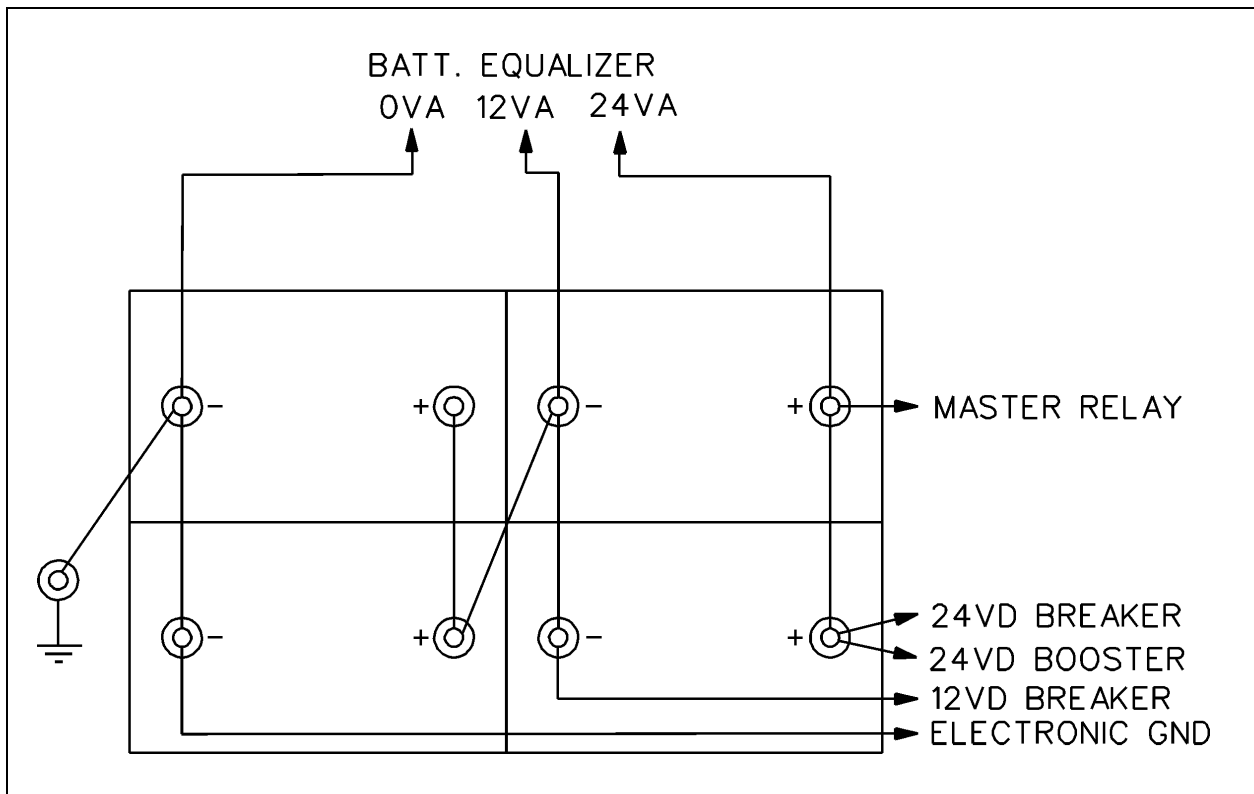
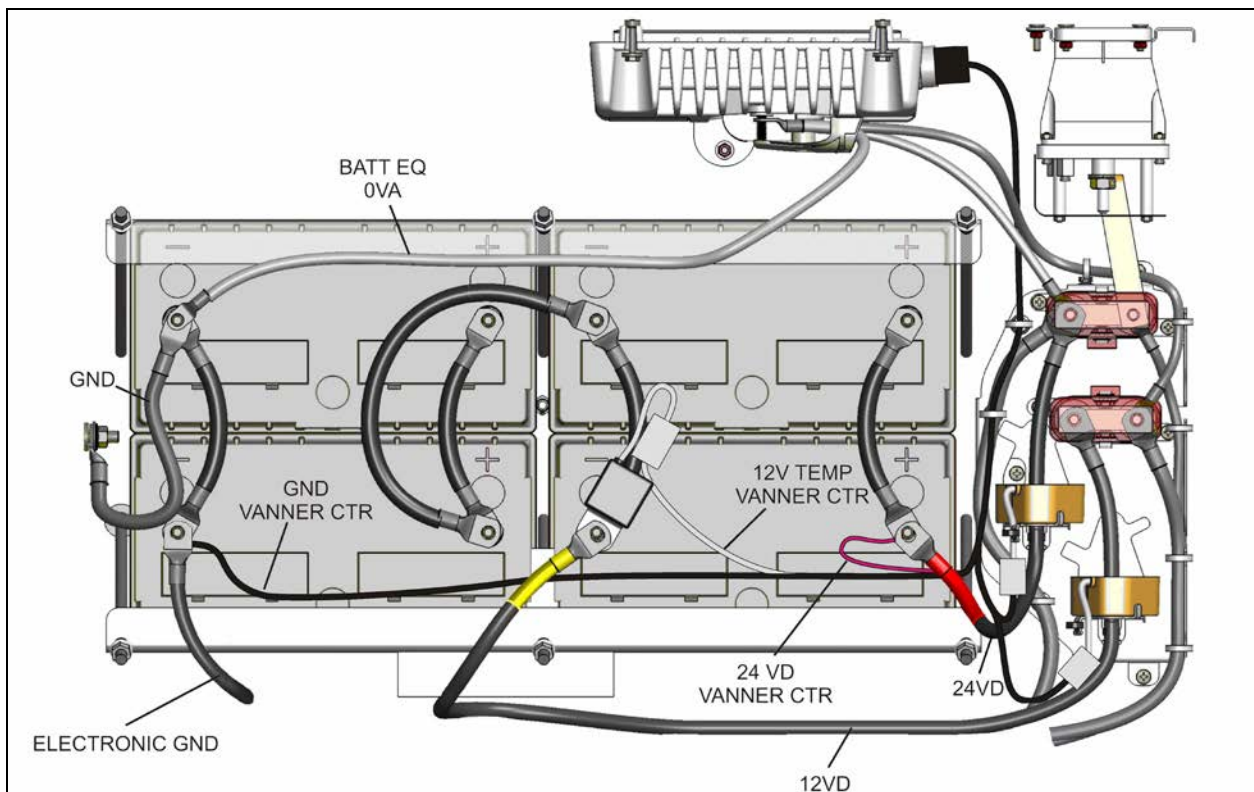

FIGURE 17: STANDARD BATTERY CONNECTIONS
FIGURE 18: AGM BATTERY CONNECTIONS
X3-45 coaches are provided with four (4) maintenance-free 12 volt heavy-duty batteries connected in series-parallel (Figure 17 & Figure 18). The top-mounted negative and positive terminals are tightly sealed to prevent leaks. Water never needs to be added to this type of battery. There are no filler caps in the cover. The battery is sealed, except for small vent holes in the cover. The vents must not be restricted as they allow small amounts of gases produced in the battery to escape. The special chemical composition inside the battery reduces gassing to a very small amount at normal charging voltages. Besides reducing gassing, the special chemistry greatly reduces the possibility of overcharge damage.
If your vehicle is equipped with PRIME energy management system, it is provided with four (4) Absorbed Glass Mat (AGM) 12-volt batteries connected in series-parallel (Figure 18).